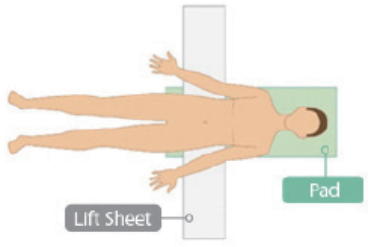

Figure 5:
Wrap the lift sheet around the patient's arm. Tuck the end of the lift sheet under the patient (refer to Figure 5). Do not tuck the arms too tightly. Be sure to check the position of the patient's fingers around the surgical table mechanisms and for proper circulation.
- Wrap the lift sheet around the patient's arm. Tuck the end of the lift sheet under the patient (refer to Figure 5). Do not tuck the arms too tightly. Be sure to check the position of the patient's fingers around the surgical table mechanisms and for proper circulation.